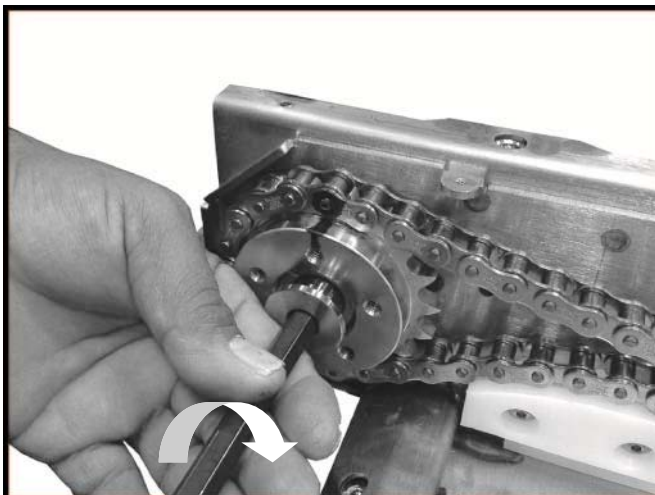

FIGURE 2-15: PLATFORM PIVOT SCREW (LH SIDE SHOWN)
g. Refer to **Figure 2-15**. Install Sprocket onto enclosure with platform pivot screw.